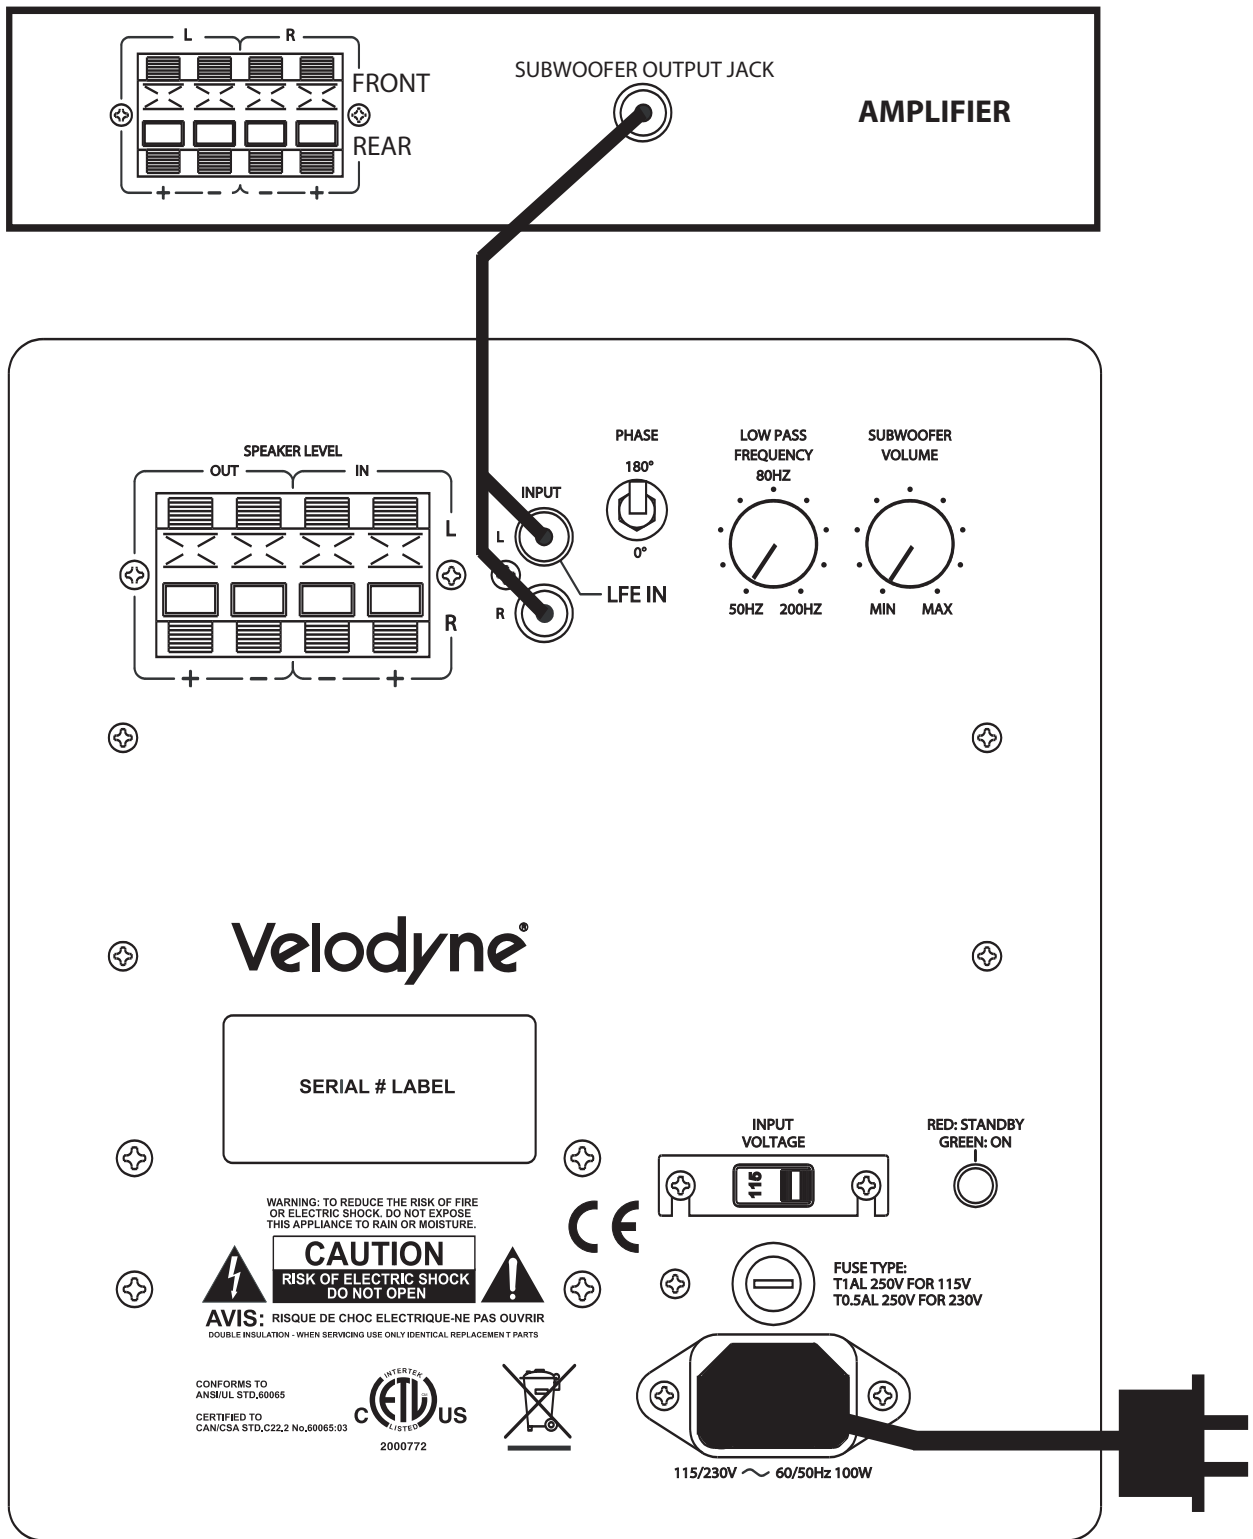
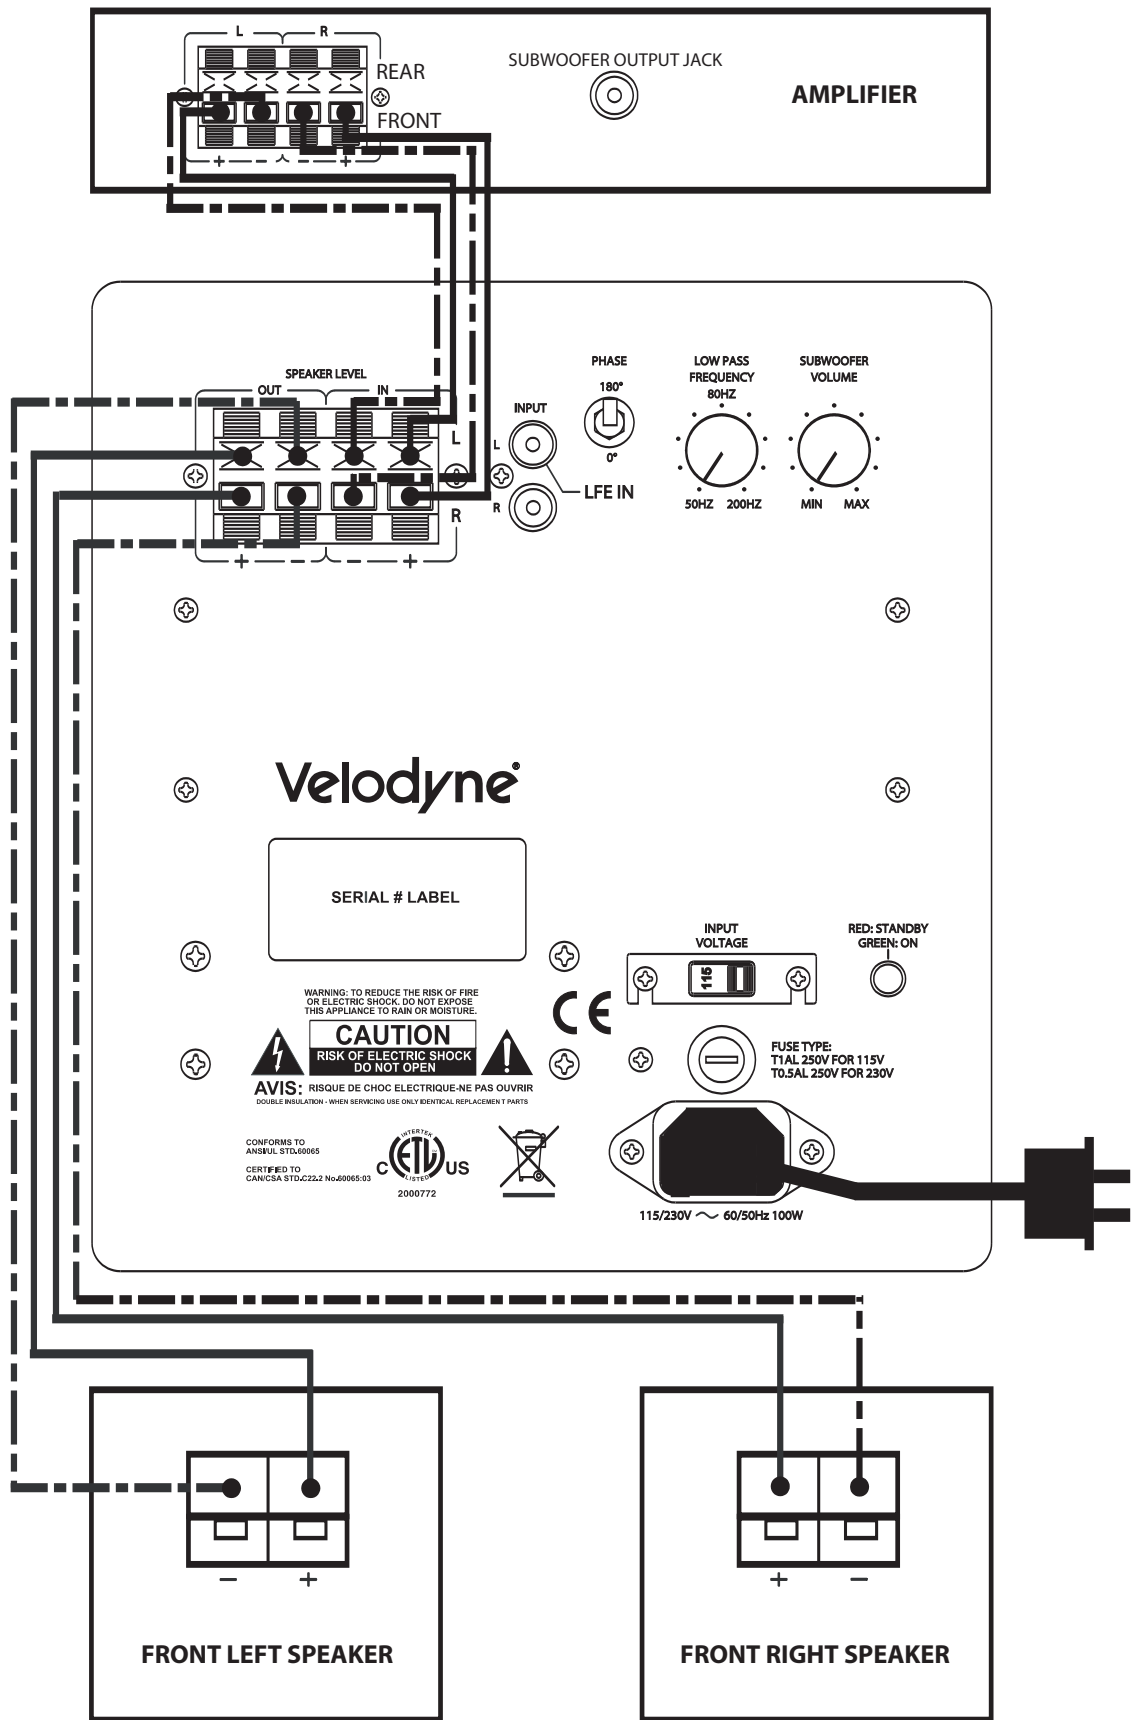

Figure 2a. Line-Level Subwoofer Connection Diagram
Figure 2b. Speaker-Level Subwoofer Connection Diagram
- 1) If using line level jacks, BOTH THE LEFT AND RIGHT INPUT SHOULD ALWAYS BE USED – never use just the left or just the right input. If the subwoofer's input comes from the LFE channel of your receiver, use the included "Y" splitter to supply the single input to both connectors for the Left and Right subwoofer inputs. If using line level connections from a preamp or signal processor, use both Left and Right inputs from your preprocessor or preamp and connect them to the Left and Right inputs on your subwoofer. (See figure 2a on page 7.)
- 2) If using a receiver with LFE out, be sure the LFE channel is sending adequate signal to the subwoofer. We recommend setting the subwoofer's level to the 9 o'clock position (the 1/4 volume setting) and then adjust the LFE channel on your receiver or processor to achieve the desired bass output. See your receiver or processor's owner's manual for more information. (See figure 2b on page 8.)
(Refer to Figure 2a Line-Level Subwoofer Connection Diagram and Figure 2b Speaker-Level Subwoofer Connection Diagram, pages 7 and 8 for connection diagrams.)